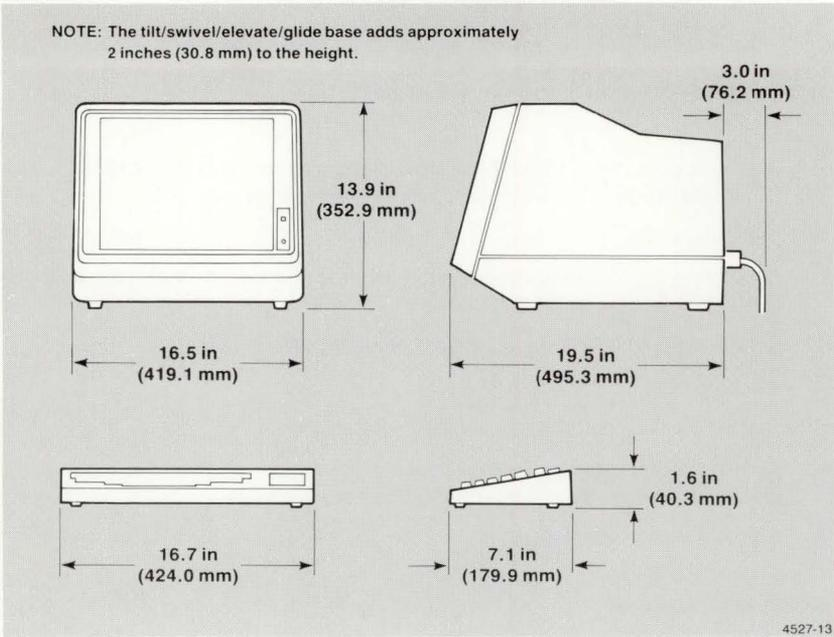

Figure A-1. 4106 and 4107 Terminal Dimensions.
- **The site should provide enough room for adequate ventilation and cable routing.** The terminal's air vents should be at least 2 in. (50 mm) from the nearest wall or surface. Allow at least 3 in. (75 mm) at the rear of the terminal for cable routing. Use Figure A-1 or A-2 (next page) as a guide.